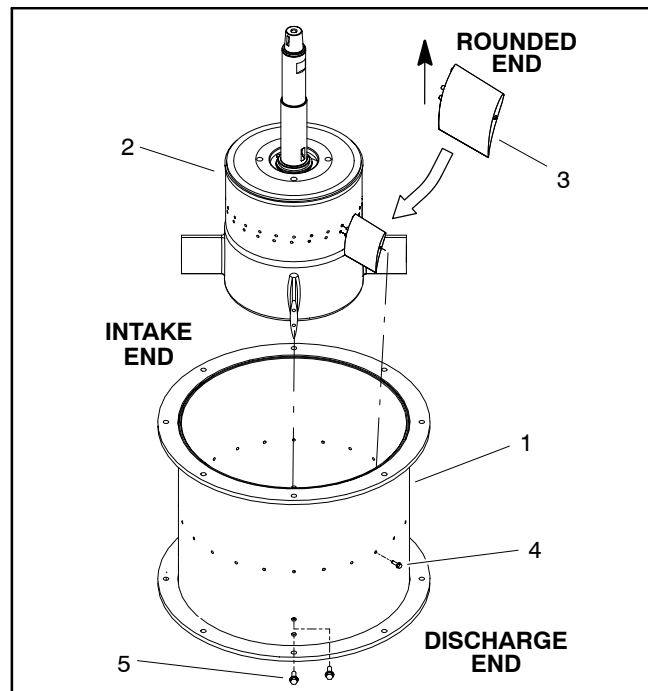

Figure 14
8. Lift fan housing assembly from machine. Set assembly on workbench with rotor shaft pointing straight up (Fig. 14).
4. Make sure that holes in inner housing flanges align with outer housing holes. Install and finger tighten eight (8) flange head screws (item 15) into threads of inner housing flanges. Do not fully tighten screws at this time.
A. Position a vane between inner and outer housing. Make sure that rounded end of vane is orientated toward rotor shaft (Fig. 14).
D. Install and finger tighten flange head screw (item 12) into threads of vane. Do not fully tighten screw at this time.
E. Repeat process for all twenty-four (24) vanes.
A. Use nutdriver to hand tighten the eight (8) flange head screws (item 15) that secure inner housing flanges to outer housing. Use a crossing pattern while tightening the screws.
B. Use nutdriver to hand tighten the flange head screws (item 12) that secure the twenty-four (24) stator vanes to outer housing. Use a crossing pattern while tightening the screws.
C. Torque flange head screws (item 15) that secure inner housing flanges to outer housing from **90 to 100 in-lb (10.2 to 11.2 N-m)**. Use a crossing pattern while torquing the screws.